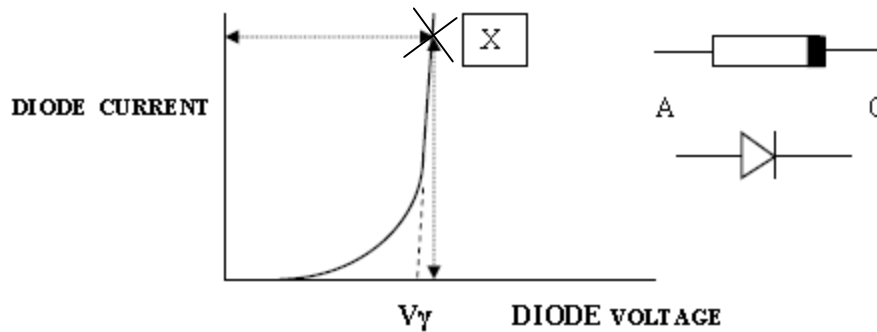
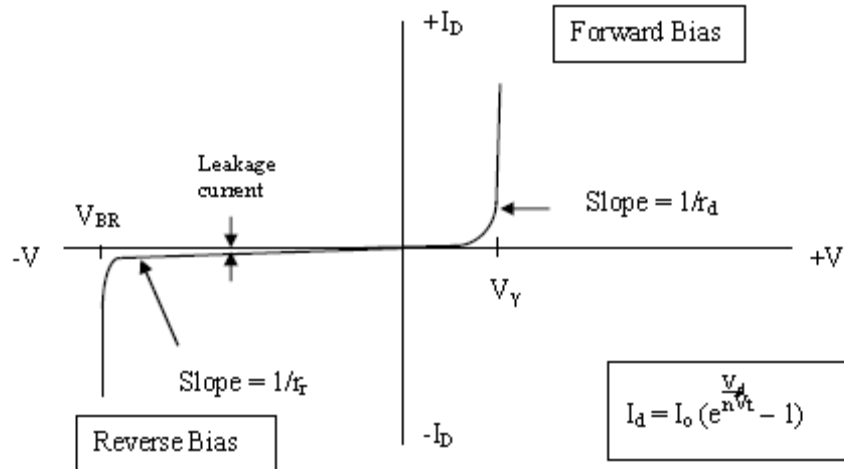

Figure 1.3: Diode forward I-V characteristic showing the definition of V_γ
Figure 1.4: Forward and reverse diode I-V characteristics
A sketch of a diode characteristic, as it would be measured on a curve tracer, is shown in Figure 1.3. The curve tracer only measures the forward I-V or the reverse I-V characteristic in any one sweep. The characteristics shown in Figure 1.4 are the combination of the forward and reverse characteristics. Appreciable conduction occurs from around 0.4V to 0.7V for silicon and from around 0.2V to 0.4V for germanium at room temperature. The value of V_γ is a function of the current at which V_γ is measured. This point is discussed below and is one of the concepts you should master from this experiment. If the applied voltage exceeds V_γ , the diode current increases rapidly.
The complete diode characteristic is shown in Figure 1.4, piecing together the forward-biased data and the reverse-biased data. Note that the scales of +V and -V may differ by a factor of 100, and while +I may be mA or A, -I is likely to be μ A or nA.
The **reverse resistance, r_r** , is given by the reciprocal of the slope of the reverse characteristic, prior to breakdown (see Figure 1.4).
- Determine the slope from the linear plot of the forward I-V characteristic as a function of the diode current, as shown in Figure 1.4, using the data previously taken in Table 1.1. Note that the inverse of the slope, or r_d , you measure is a function of where you choose the diode current. Obtain at least eight (8) slope data points.